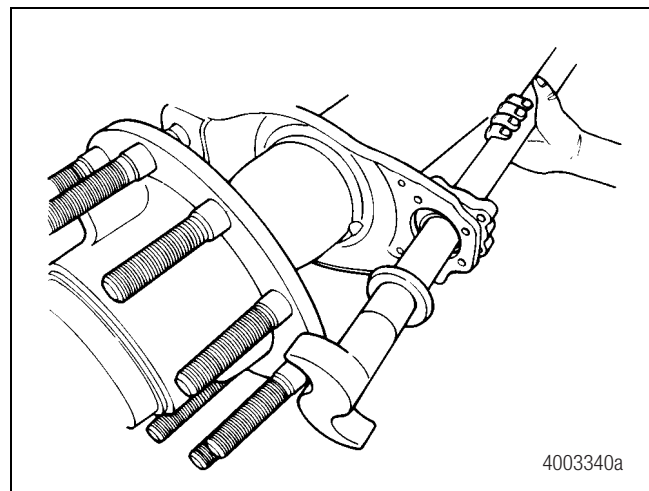

Figure 11.59
4. Move the camshaft head away from the centerline of the axle so it clears the hub flange, then pull the camshaft from the bushing housing. Figure 11.59.